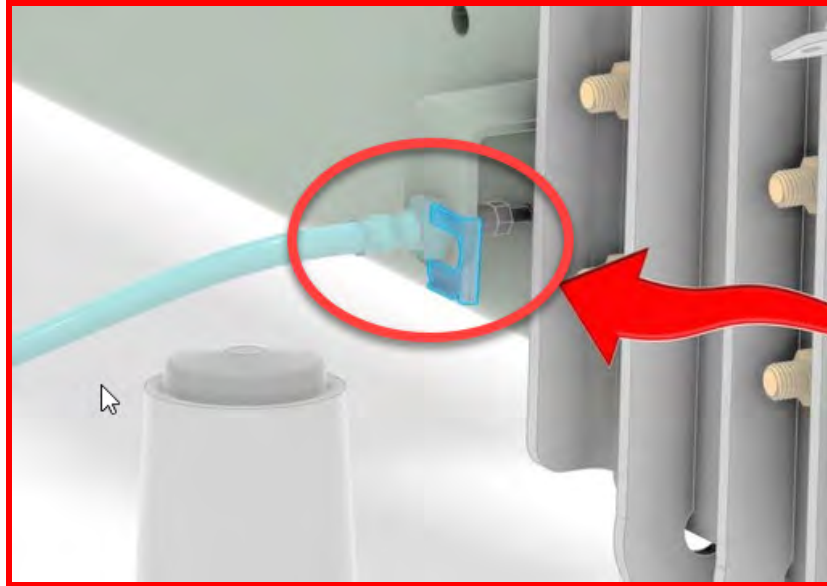

Figure 16 - Front Brake Line Clip
5. Remove the brake line clip from the frame-side bracket (Figure 16)